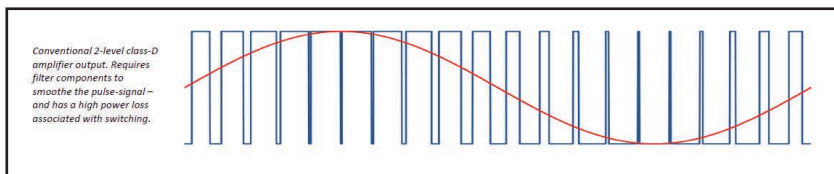
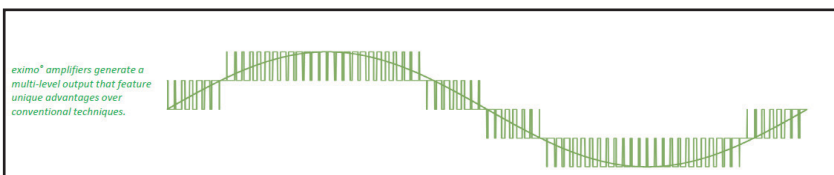
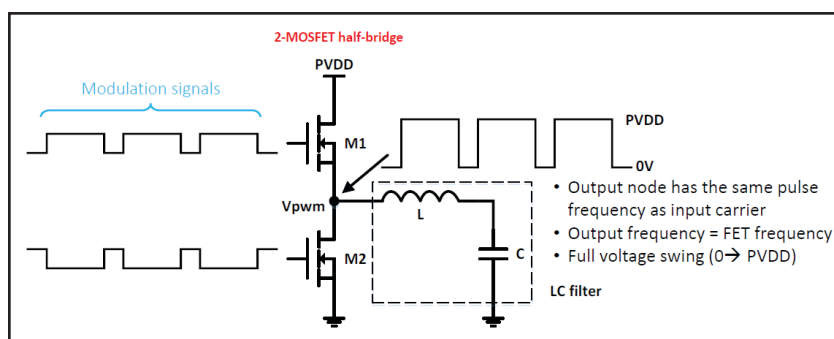
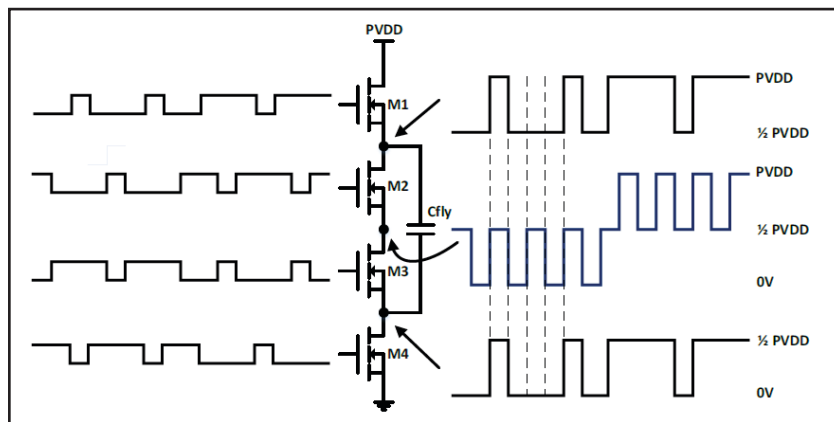

Figure 1: Conventional Class-D output signal
Figure 2: Multi-level amplifier output signal
Figure 3: Conventional Class-D output stage
Figure 4: Multi-level amplifier output stage
**Figure 1** shows the conventional two-level output of a Class-D amplifier. The output signal of the multi-level amplifier displayed in **Figure 2** shows the output signal. **Figure 3** and **Figure 4** show the output stages of a conventional Class-D amplifier and a multi-level amplifier.